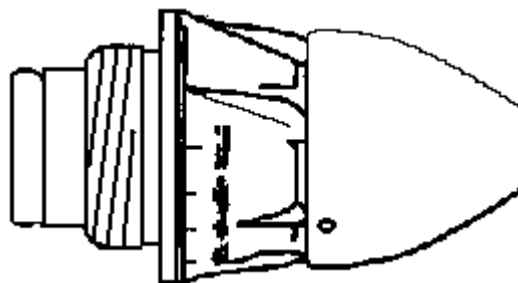

FIGURE 14. M745 PD
(3) Point Detonating, Practice M745 (Figure 14.)